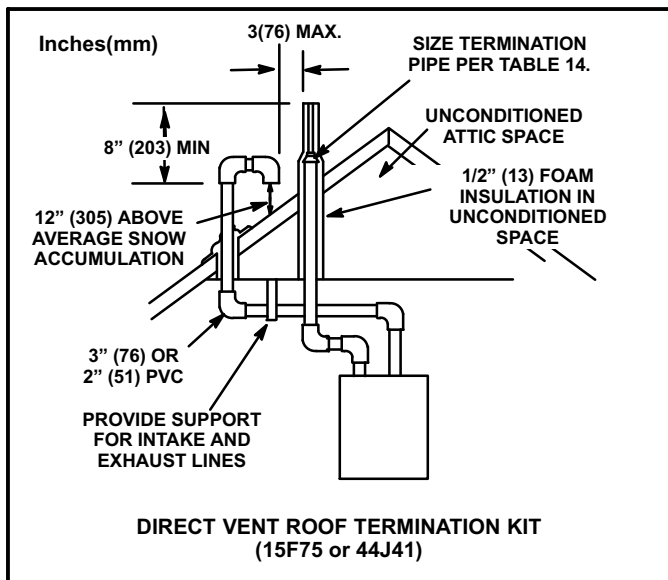

FIGURE 25
Intake and exhaust pipes may be routed either horizontally through an outside wall or vertically through the roof. In attic or closet installations, vertical termination through the roof is preferred. Figures 25 through 33 show typical terminations.
3. On roof terminations, the intake piping should terminate straight down using two 90° elbows (See figure 25).